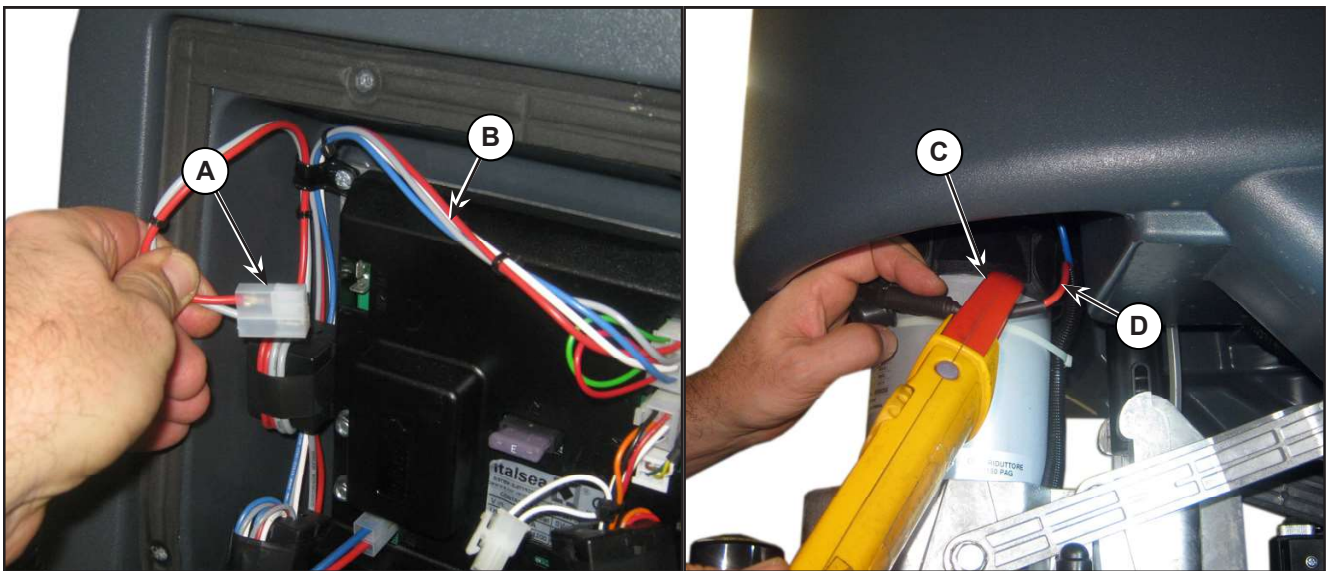

Figure 6:
3. Disconnect the drive system connector (A) (Figure 6) on the Main machine controller (B) to disable machine movement.
6. Apply the amperometric clamp (C) to an electrical cable (D) of the brush motor.
9. Remove the Amp clamp (C).